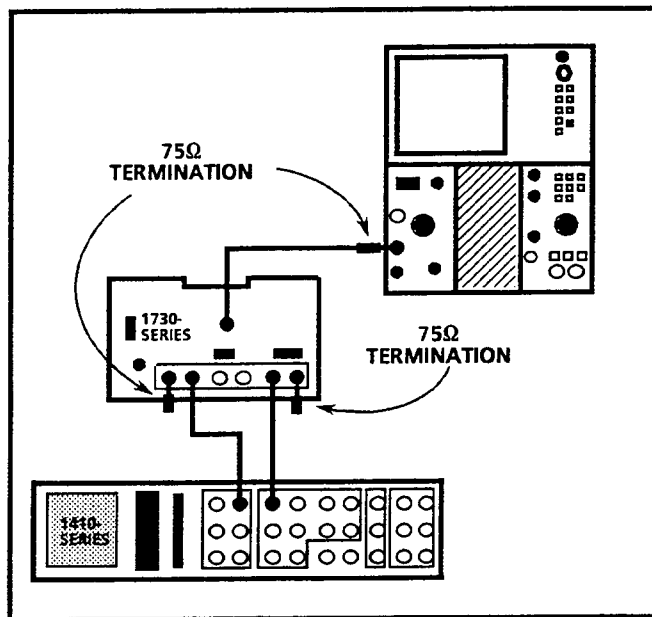

Fig. 5-8. Checking PIX MON OUT signal amplitude.
- i. Connect the color bar signal to the CH-A INPUT. See Fig. 5-8.